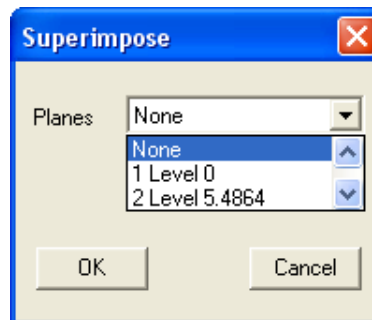

Figure 6-8 Extrude dialog box
- From the **Show** menu, choose **Superimpose**. The dialog box of Figure 6-8 appears.